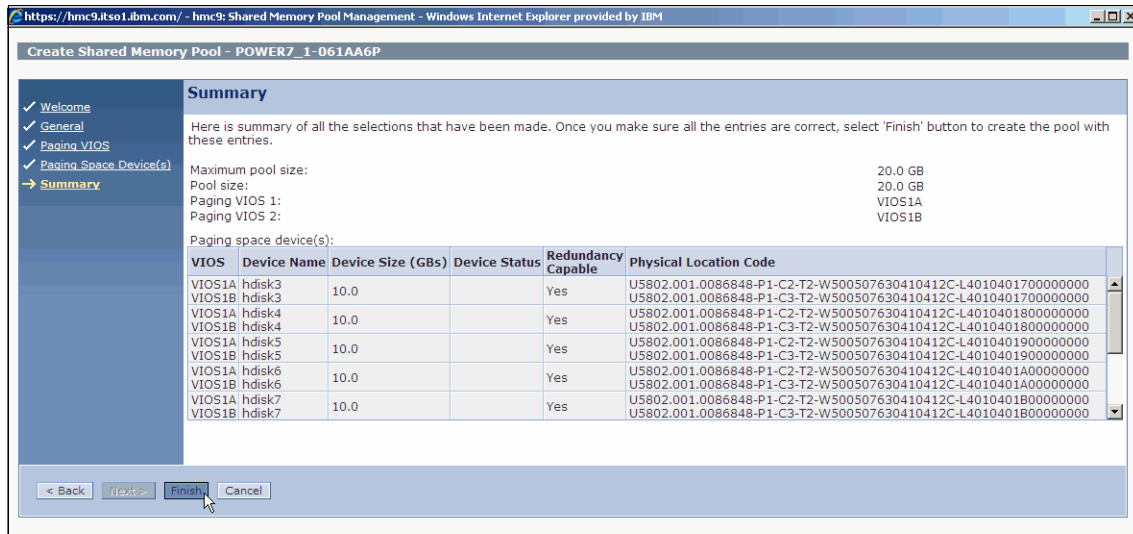

Figure 15-6 Finishing shared memory pool creation
7. In the Summary window, shown in Figure 15-6, click **Finish** to start the creation of the shared memory pool.